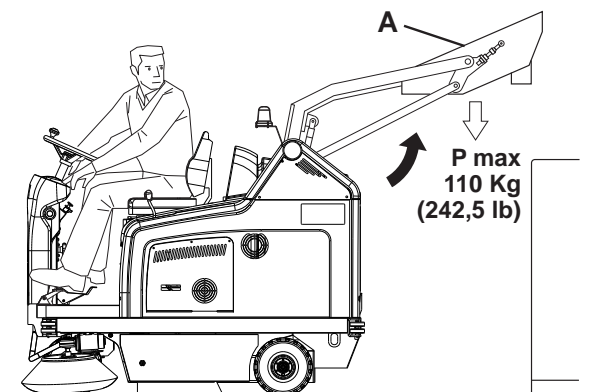

Figure 1
3. Keep people away from the machine and from the hopper (4) especially.
4. Press the enabling switch (51) while pressing the hopper lifting switch (57) to lift the hopper (A, Fig. 1) up to the desired position.
The hopper (A, Fig. 1) can be dumped only when lifted at a minimum height of 270 mm.